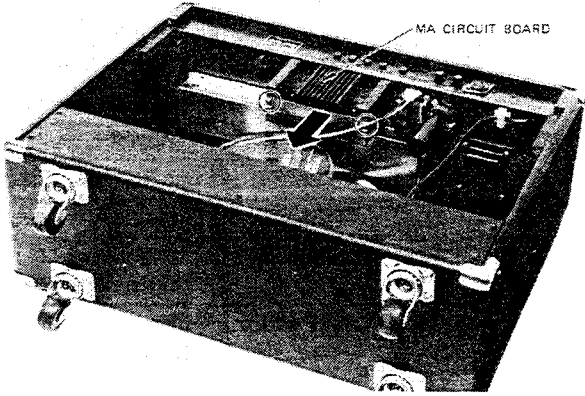

Figure 2
- 2. Remove the 2 screws holding the MA circuit board to the chassis, as shown in Figure 2, and pull it down.